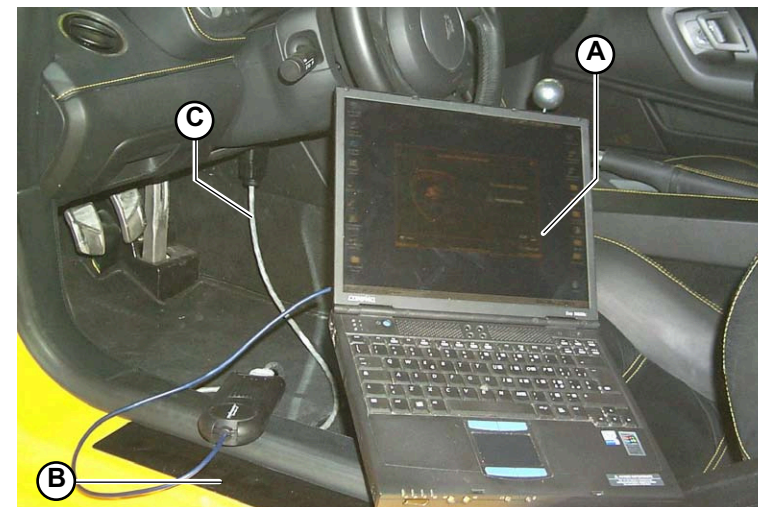

Fig.1
- Switch on the PC (**A-Fig.1**);
- connect the adapter (**B-Fig.1**) to the PC parallel port;
- connect the adapter to the OBDII connector (**C-Fig.1**) in the car, located on the right of the steering column.